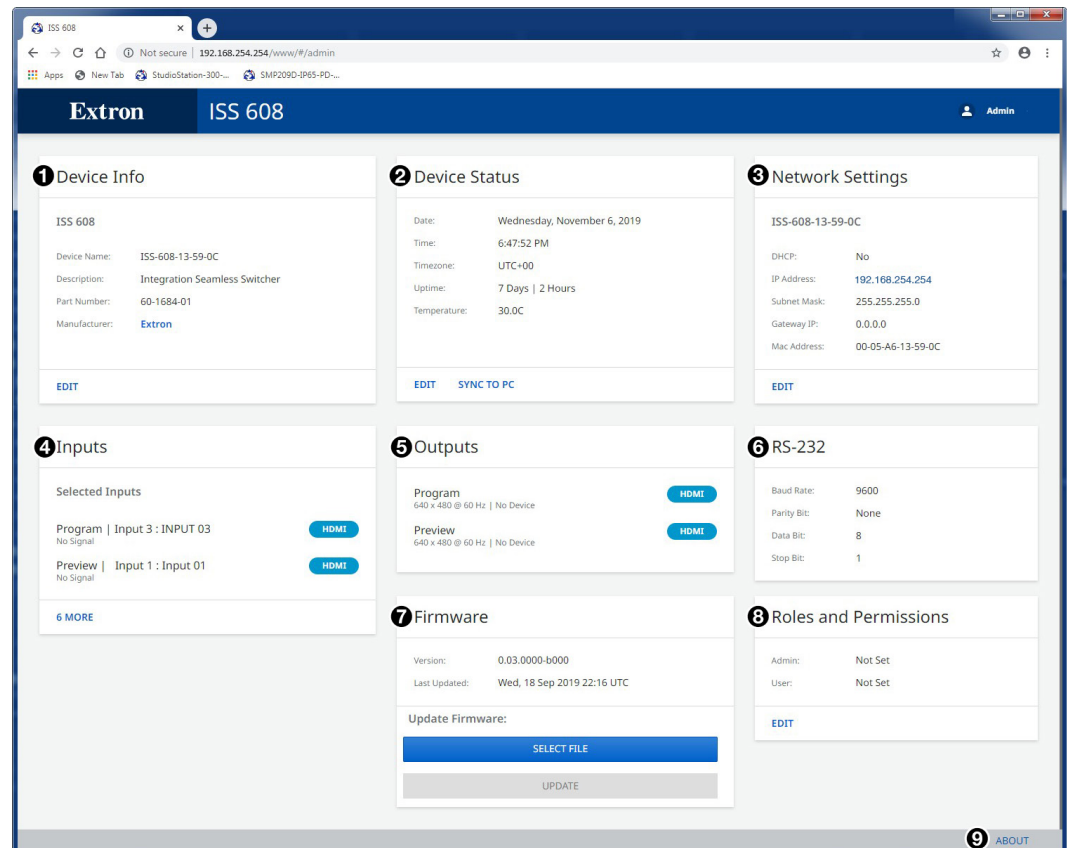

Figure 41. ISS 608 Internal Web Page
The ISS 608 internal web page (see figure 41) provides an overall, read-only view of the status of the seamless switcher, with some editable fields for the following categories:
The **Device Info** panel (see figure 41, ❶, on page 68) displays the device name, a brief product description, and the part number. The panel also contains an **Extron** link, which opens the Extron website in a new window.
In the **Network Settings** panel (see figure 41, 3 on page 68), set the IP address, subnet mask, and gateway address for your ISS, and turn DHCP **On** and **Off**.
The **Inputs** panel (see figure 41, 4, on page 68) displays the signal type of the active input signal as well as its HDCP status.
The **Outputs** panel (see figure 41, 5, on page 68) displays the resolution and refresh rate of the outputs, their signal type, and the HDCP status of all connected outputs.
The **Firmware** panel (see figure 41, 7, on page 68) displays the current firmware version and the date it was last updated. Update the firmware on the ISS 608 from this panel (see Software/Firmware Installation on page 58 to download the firmware files).